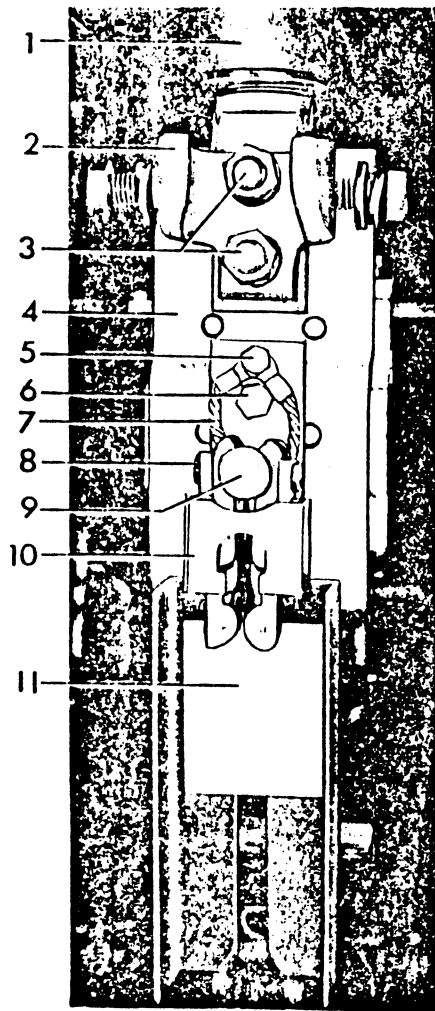
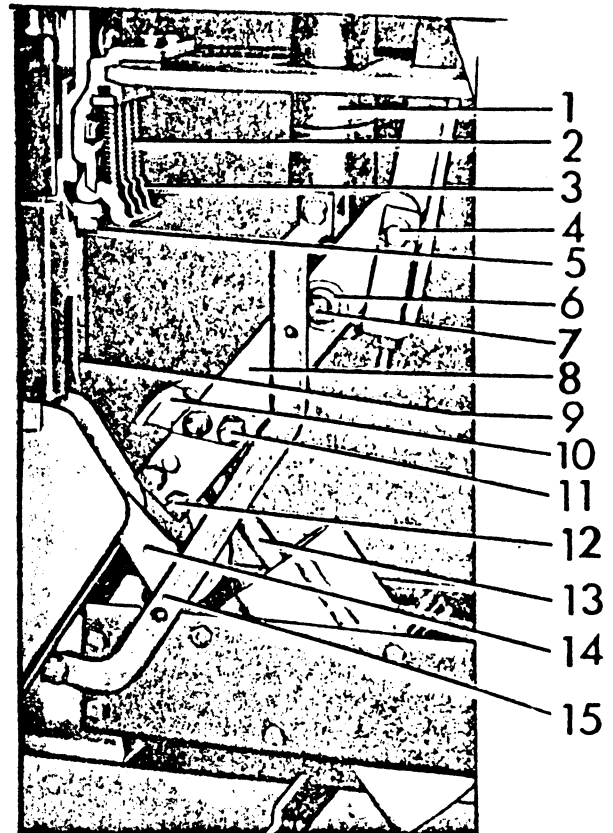

Figure 22. (8039586) Rear Bushing Assembly
Figure 23. (8038805) Contact Assembly
2. Primary Contacts (3 and 10 Figure 23). Inspect the condition of the stationary contact fingers and movable contact blocks. Badly pitted or burned contacts should be replaced. (Note: Burned primary contacts indicate the probable need for arcing contact replacement.) If the contact surfaces are only roughened or galled, they should be smoothed with crocus cloth or draw filed. After contact dressing the primary contacts should be greased lightly with D50H47.
7. The cup bearing and the contact ring at the hinge point of the contact blade should be disassembled, inspected, cleaned, and relubricated with G-E contact lubricant D50H47. The contact ring should be inspected for wear and replaced when reduced in thickness to less than 1/32". When reassembling the cup bearing, be sure the cotter pin is properly assembled in the castle nut on the hinge pin (7) Figure 23. This assures proper contact pressure at the hinge.
3. The stationary primary contact fingers (3) Figure 23, should be disassembled and the silver-plated pivot area of the contact and contact support cleaned and lubricated with G-E lubricant D50H47.
A. Stationary Arcing Contacts (10) Figure 22.
1. Disconnect the contact braids (7) from the contact fingers by removing two bolts and locking plates (8).
3. To disassemble braids from stud plate remove one bolt (5).
4. To disassemble stud plate from contact support, remove two bolts (6).
5. Reassemble in the reverse order, make sure locking plates are properly reassembled with bolts (8).
B. Movable Arcing Contact (14) Figure 23.
1. Remove the assembly bolts (12) making note of quantity and location of shims and spacers used between contacts and contact arms.
3. Close the breaker slowly to check that the movable arcing contact is approximately centered on the stationary arcing contact and that it does not rub on either side of the throat barrier (9).
D. Movable Primary Contacts (10) Figure 23.
1. Disassemble operating rod pin (4), first noting quantity and location of washers in the assembly.
2. Pry contact arms (8) apart enough to disengage pivot pins of piston assembly (13) allowing piston to drop down into its booster cylinder.
3. Rotate the two parts of the contact arm assembly away from each other so assembly bolts (11) are accessible and movable primary contacts (10) can be removed.
E. Contact Arm Assembly (8, 10, 13, 14) Figure 23.
1. Remove connection bar (15).
2. Disassemble hinge pin (7), cup bearing (6) and operating rod pin (4) noting quantity and location of any washers and spacers used in assembly.
3. The contact arm assembly including the piston assembly (13) can now be removed.
4. When reassembling, first insert piston tube assembly (13) into the booster cylinder and reassemble the cup bearing, making sure the silvered contact washers between the bushing and contact arms (both sides) are in place.
5. Reassemble operating rod pin (4) and connection bar (15).
5. Disassemble the spring retainer (4) by removing mounting bolts (5).
6. Referring to Figure 22, disassemble the contact support (4) and interrupter mount-
3. Remove the connection bar (15) Figure 23, cup bearing (6) and hinge pin (7).
5. When reassembling, first mount the bushing and assemble the cup bearing (6), contact arm (8), and replace pin (7) being sure the silvered contact washers between the bushing and contact arms are in place. The contact surfaces at the hinge point of the contact blade and bushing should have a thin coating of D50H47 grease.